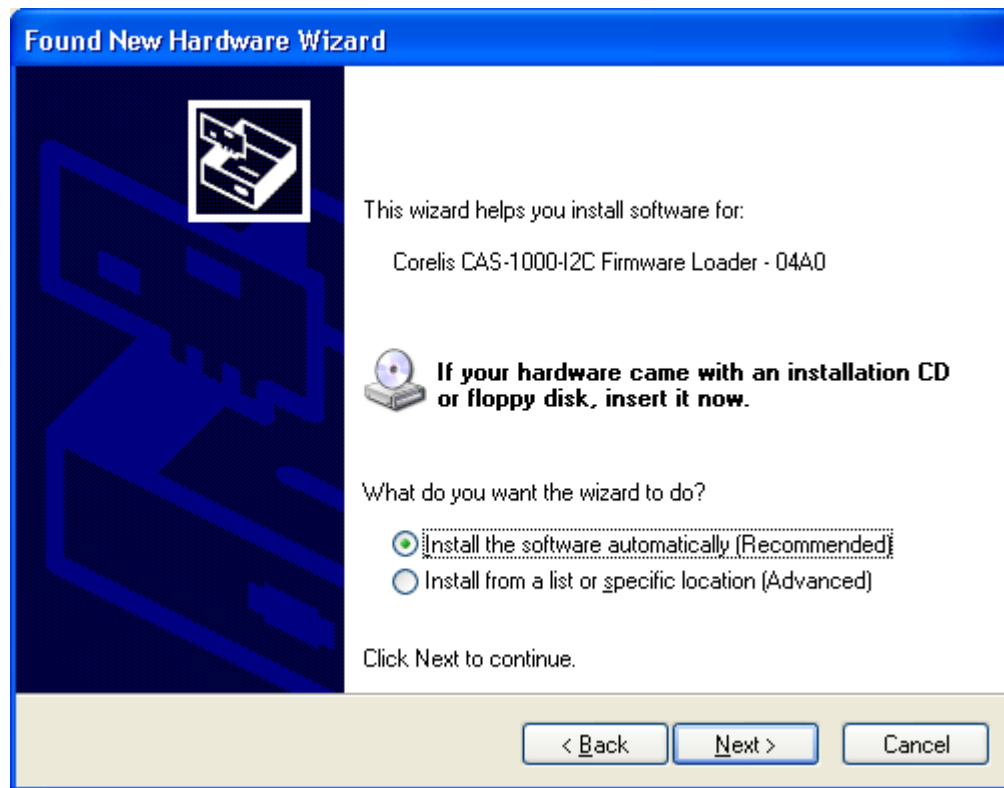

Figure 15. Found New Hardware Wizard - Install Options (Windows XP)
5. The dialog shown in Figure 15 will pop up. Click on **Install the software automatically (Recommended)** and click on the **Next** button.